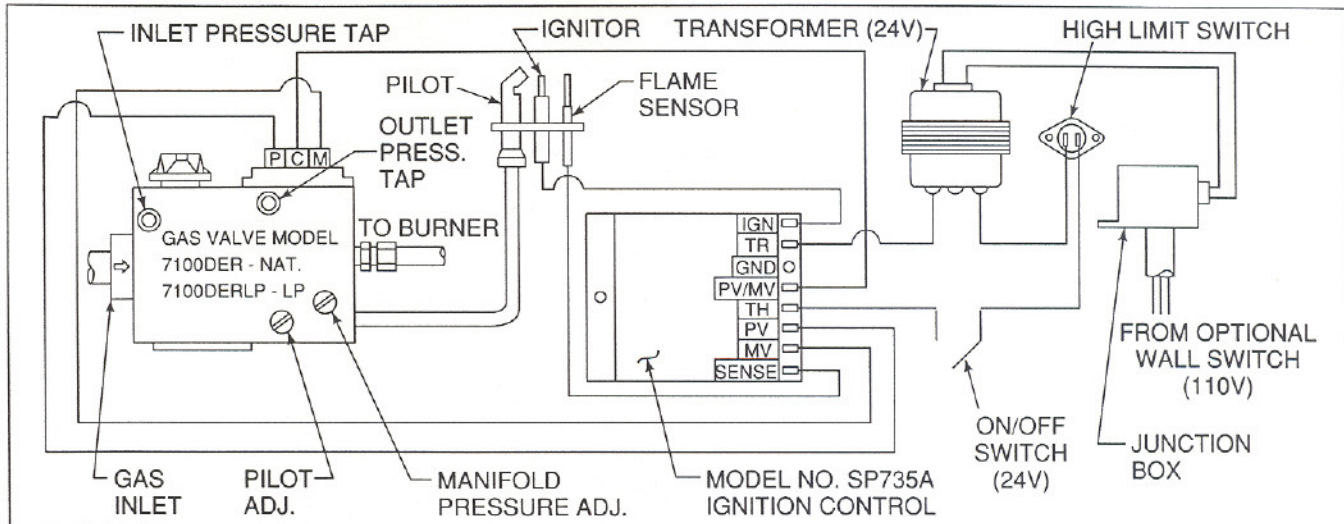

Figure 5
1. Remove the pilot adjustment cap. See Figure 5.